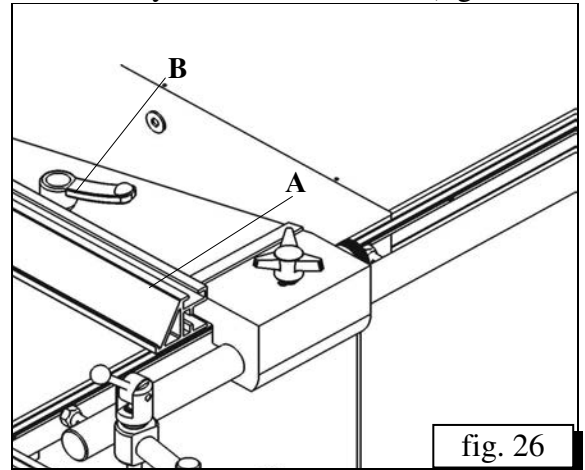

fig. 26
1). Horizontal position (fig. 26) – for cutting of thin pieces with 15 mm minimal width.